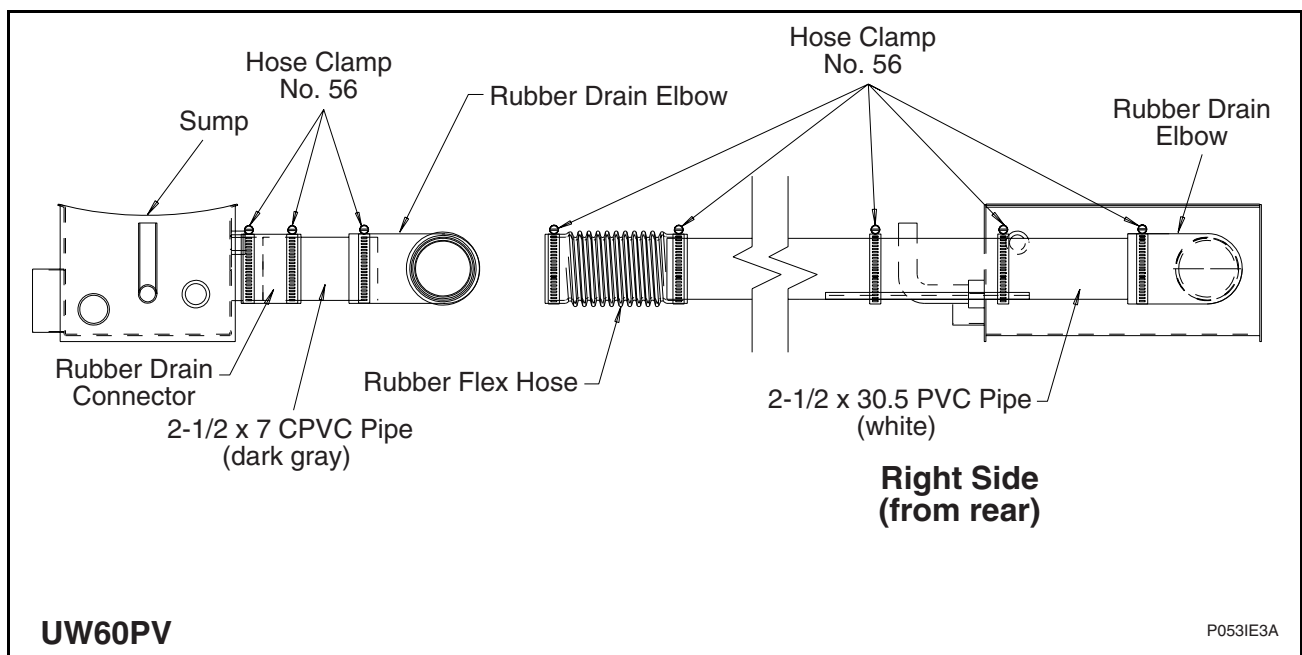

Figure 15
- Build right drain as shown in its completed state in Figure 15.